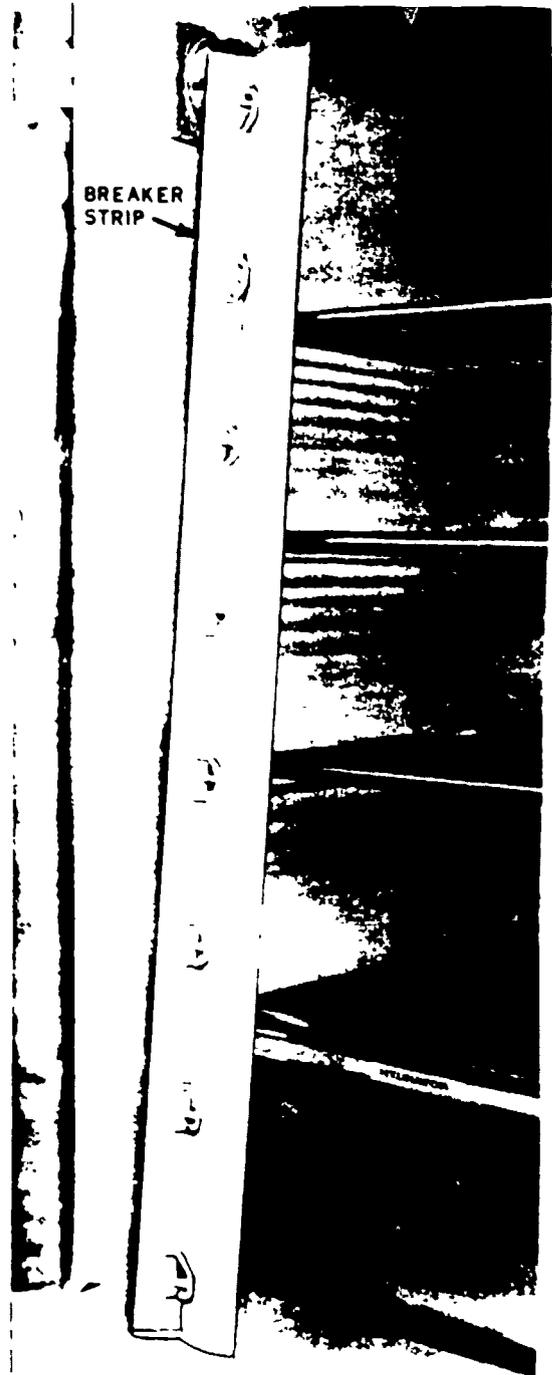

Figure 2.
**BREAKER STRIP** The breaker strips, see figure 2, are pieces that cover the space between the inner and outer shells. Each manufacturer installs the breaker strips in a different manner. Some use screws, some use clamps, while others snap them in.